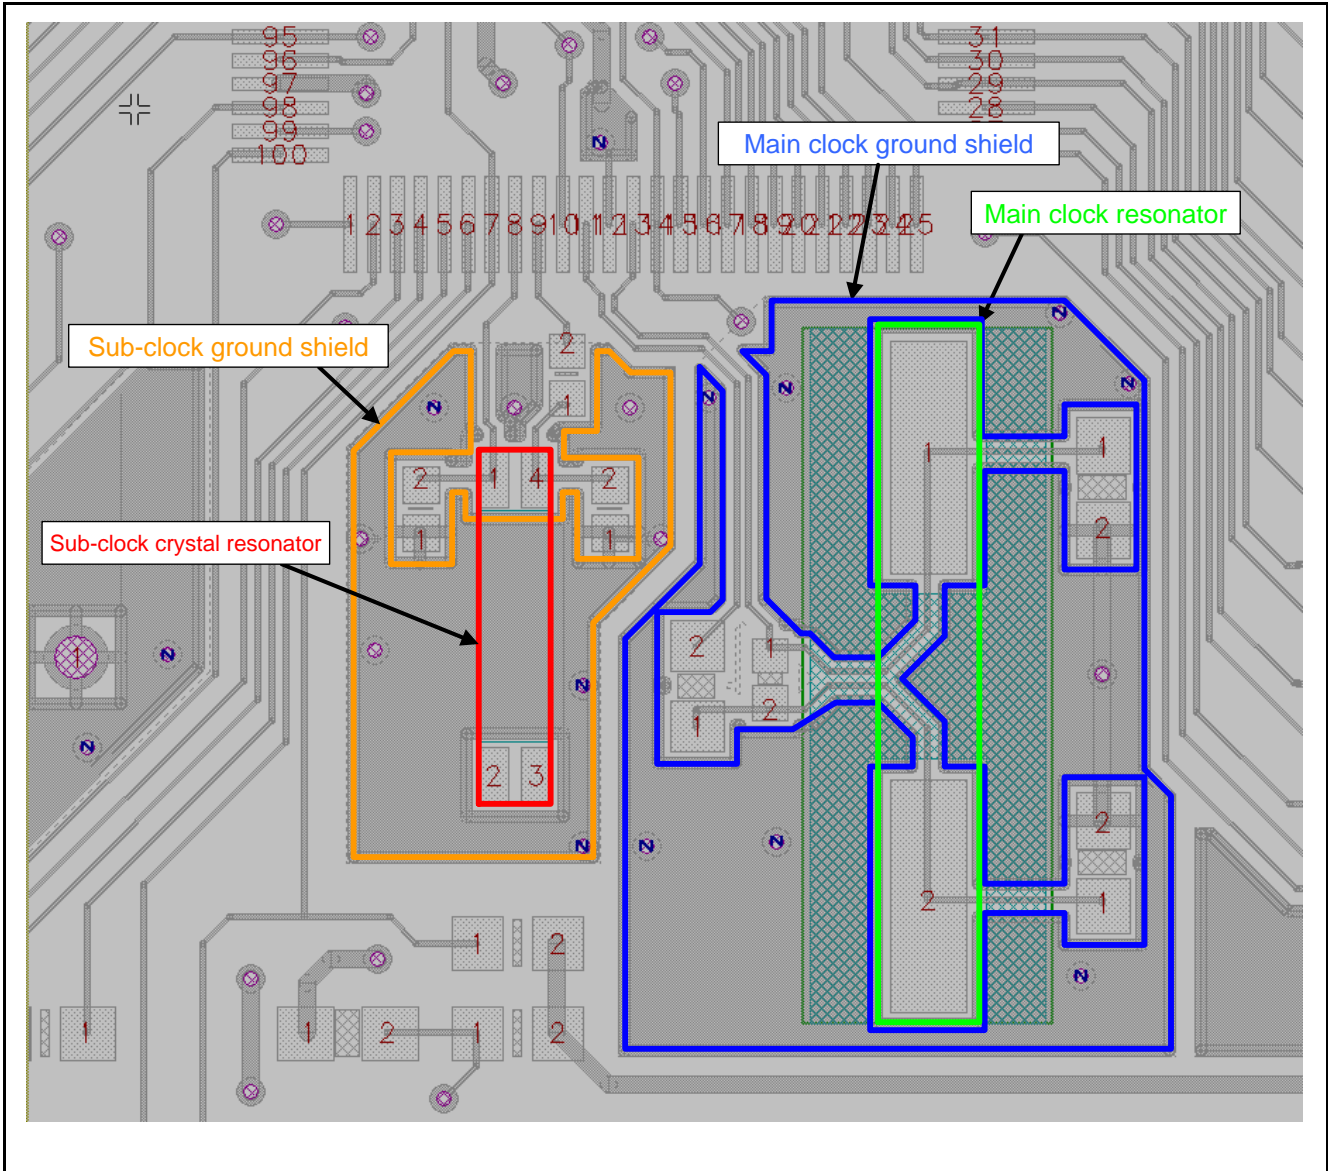

Figure 1.13 Trace Example When Shielding the Main Clock Resonator With a Ground
(1) describes points on wiring the main clock resonator, and Figure 1.13 shows a trace example.